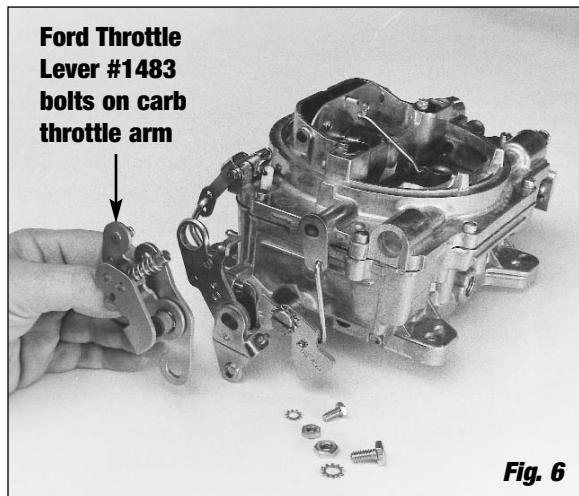

Fig. 6
- Compare throttle arm of your new carburetor with the old one to be sure that all required linkages will hook up. Install proper throttle and transmission linkage for your particular application. Throttle stud is removable and must be installed in the proper location. Chrysler vehicles with automatic transmission will require Throttle Lever Kit #1481. Ford vehicles with automatic transmission and cable linkage will require Throttle Lever Kit #1483 (**See Fig. 6**) and Throttle Cable Plate Kit #1490 (for 289-302), #1491 (for 351-W), #1493 (for 351-C & 351-M/400), or #1495 (for 429/460).